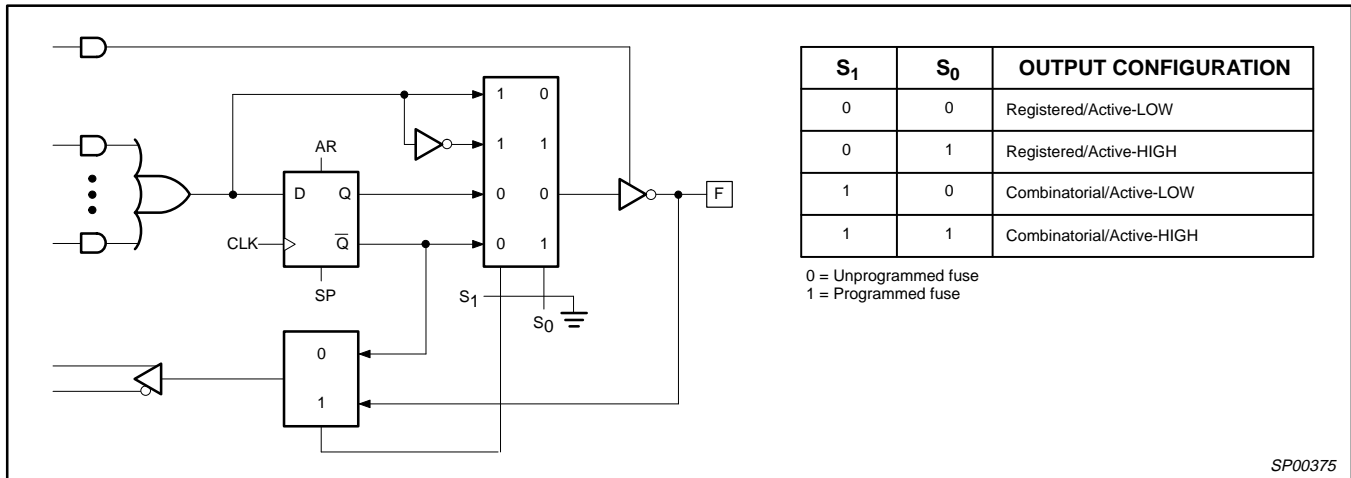

Figure 2. Output Macro Cell Logic Diagram
registered output or combinatorial I/O, Active-HIGH or Active-LOW (see Figure 2). The configuration choice is made according to the user's design specification and corresponding programming of the configuration bits $S_0 - S_4$. Multiplexer controls are connected to ground (0) through a programmable fuse link, selecting the "0" path through the multiplexer. Programming the fuse disconnects the control line from GND and it floats to V_{CC} (1), selecting the "1" path.